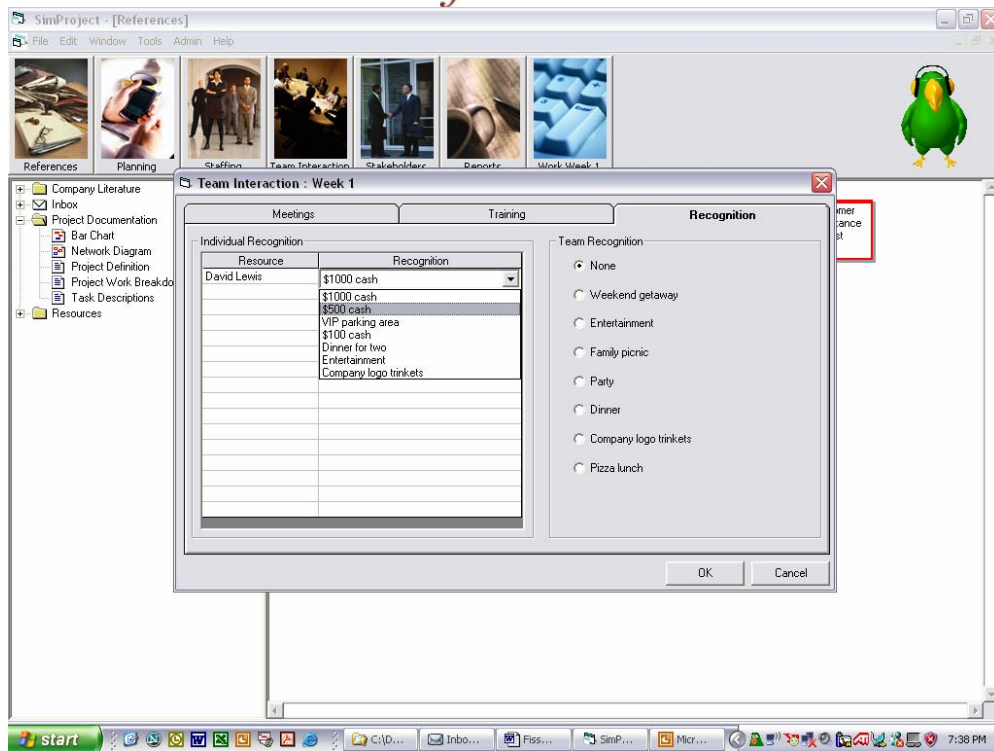

Figure 12 - Recognition Decisions by Staff and Award or Team Award
- Recognition – select the individual or team and the recognition (Figure 12)